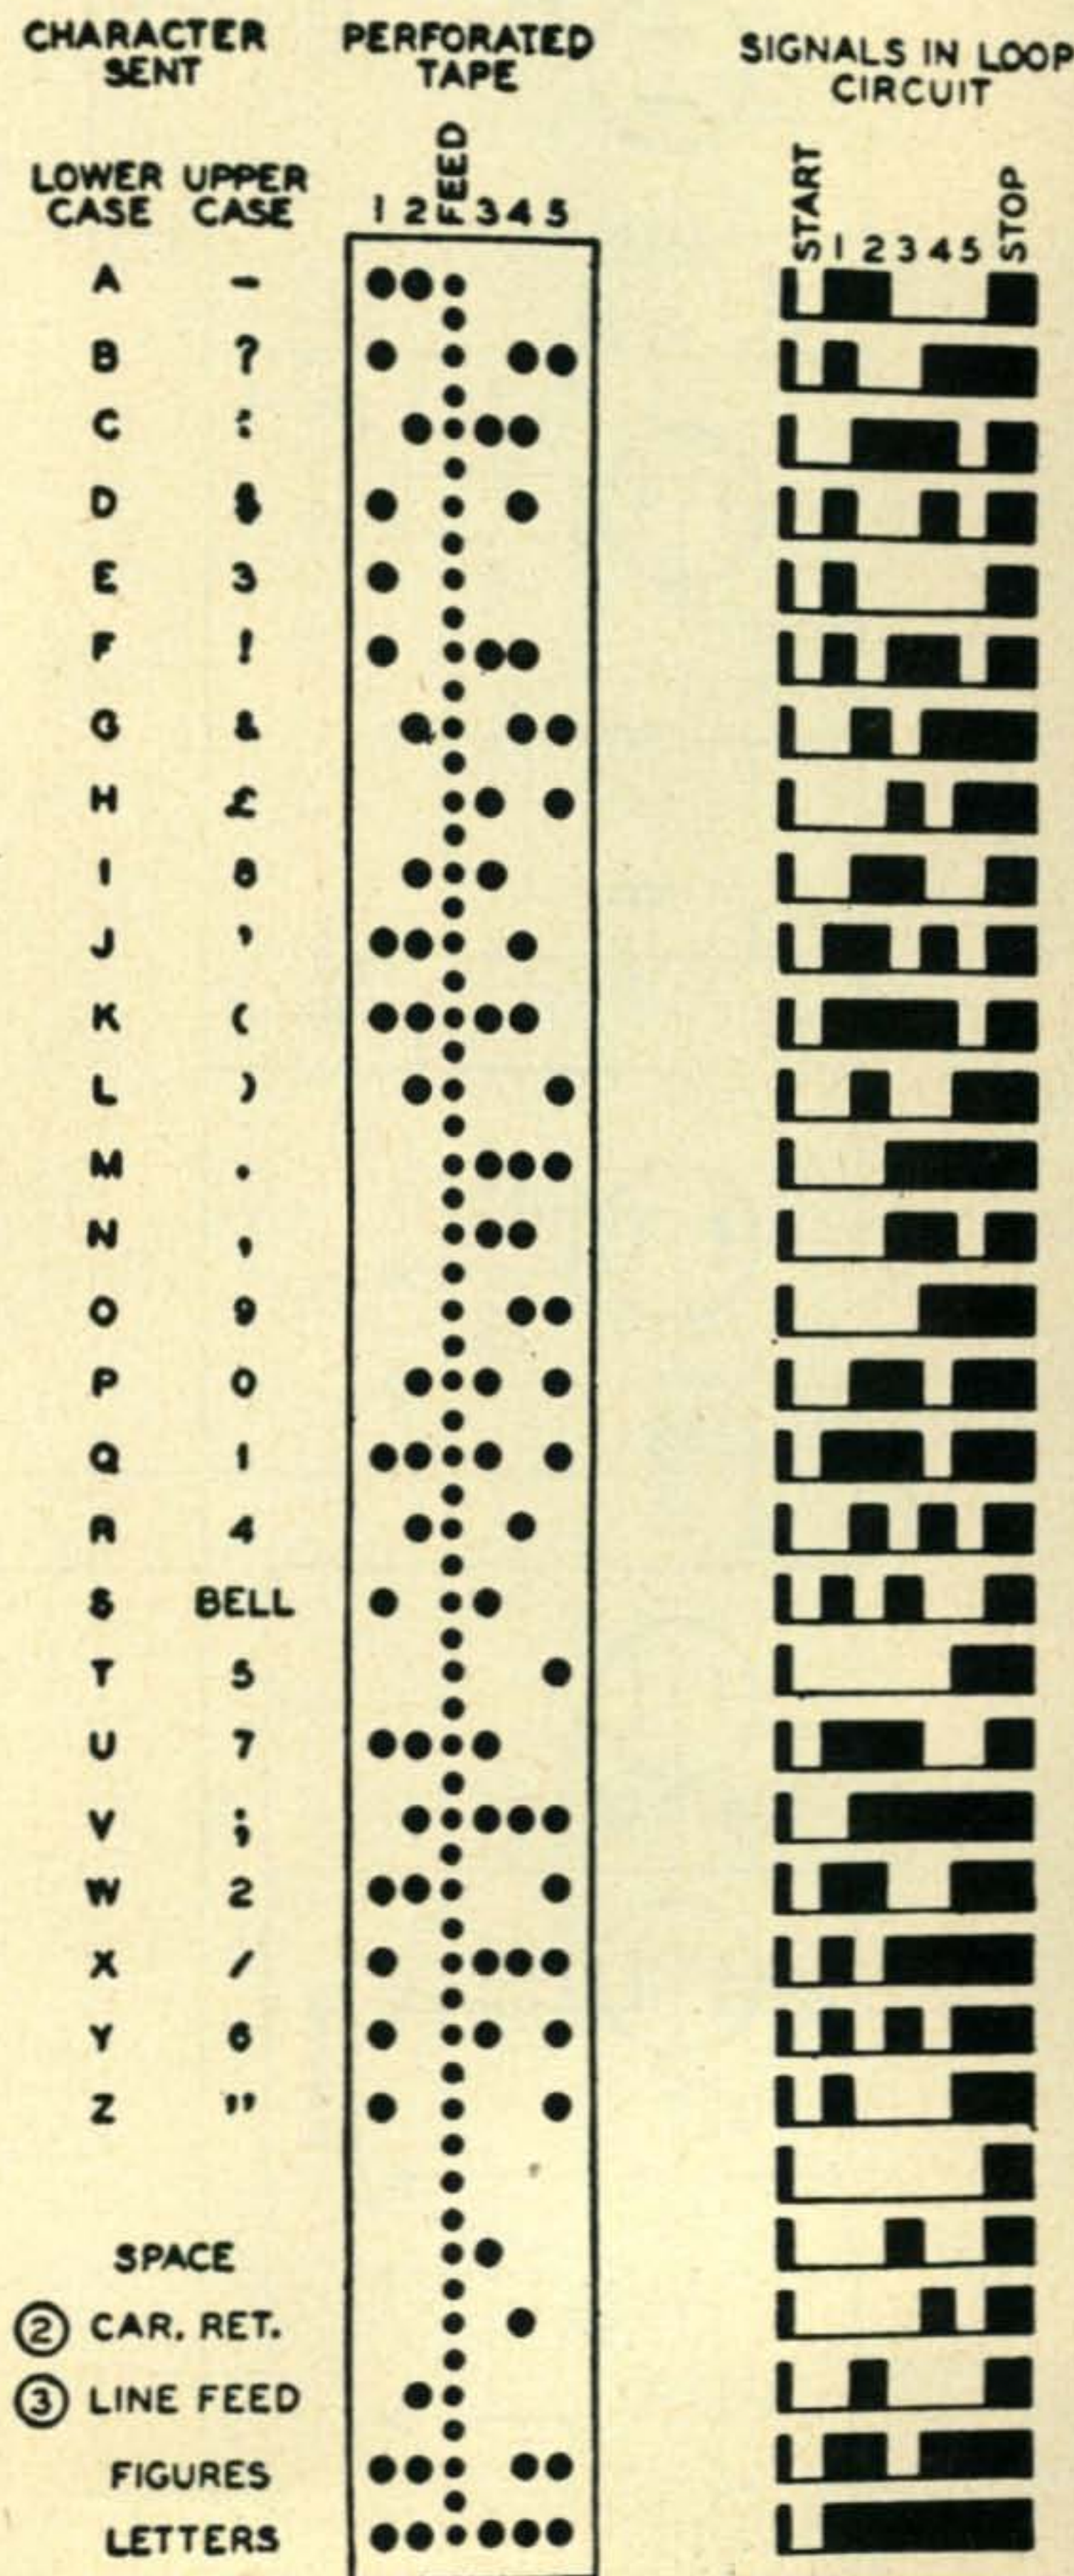

Fig. 2. Teletypewriter Signal Code
*Fig. 2* graphically illustrates the signal code used in teleprinter transmission and shows the corresponding perforations in tape. The black portions of chart indicate *mark*, or current in a d-c loop circuit. The smaller holes in the tape are used to engage a sprocket, in tape transmitters, which feeds along the tape from character to character. Five "sensing" pins feel for the holes and whenever one is encountered, a contact is closed, thereby transmitting a *mark* through the associated distributor.